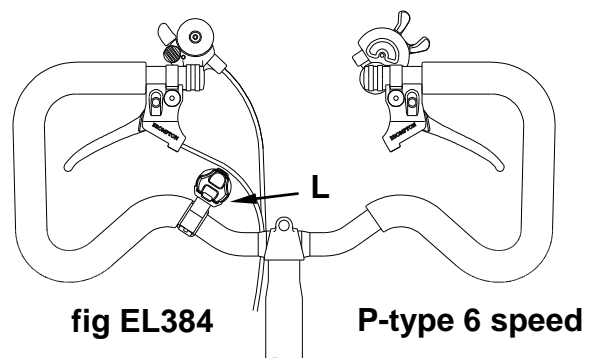

fig EL384
**P-type 6 speed (fig EL384)**, mount the clip on the lower part of the handlebar as described for the 3 speed with the bell fitted.